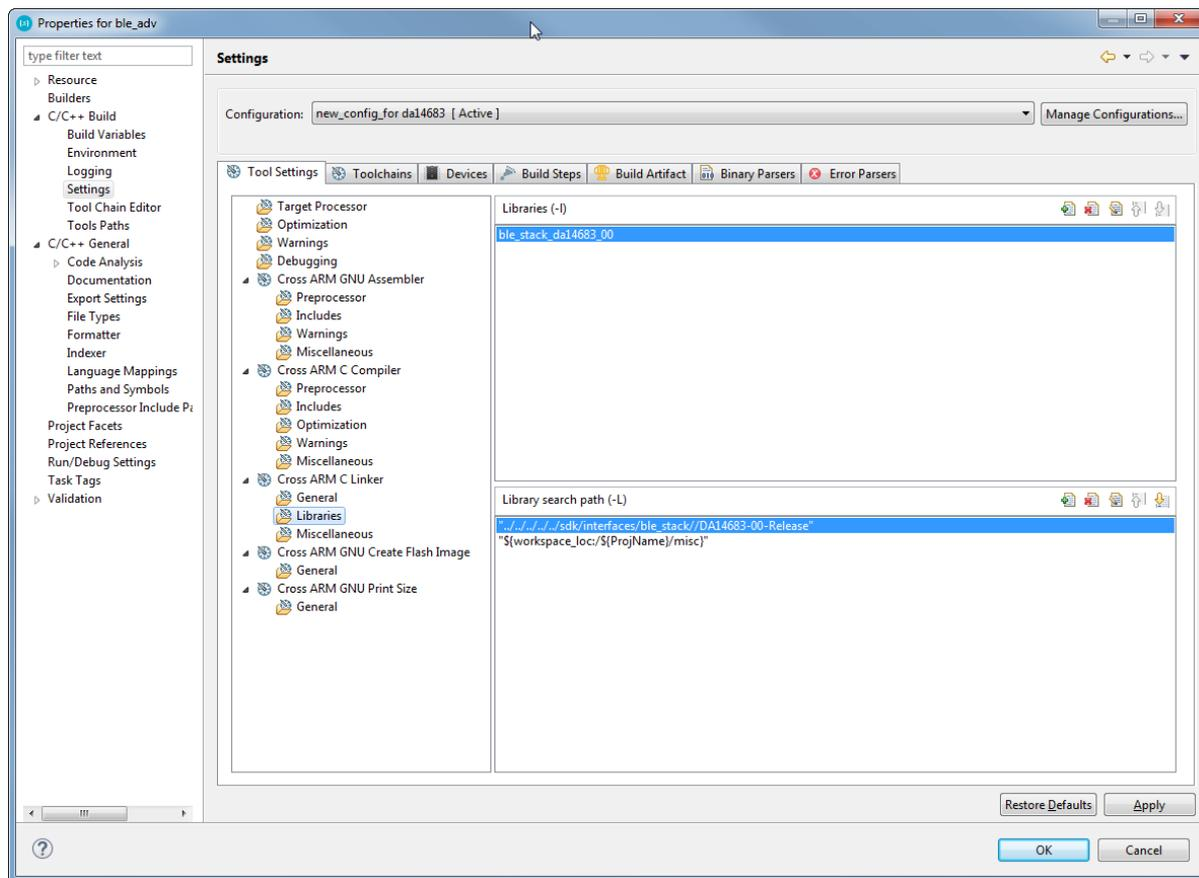

Figure 8: Edit linker configuration
| Figure 8: Edit linker configuration.....       | 8 |
- In the **Libraries** of the **Cross ARM C Linker**, edit the **libraries (-l)** and **Library search path (-L)** to point at the DA14683 SDK (Figure 8).